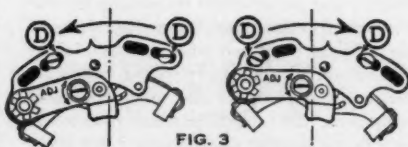
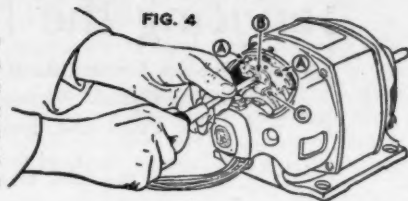

FIG. 3. DIRECTION OF ROTATION
FIG. 4. BRUSH LIFTING MECHANISM
**Removal from Motor:** Take out screws AA Fig. 4. (Motor must NOT be running.)
**Assembly to Motor:** Place mechanism into position as shown in Fig. 4 being sure that lifter arm encircles weights C Fig. 4.
Place screws AA Fig. 4 in the position. The pointer of the mechanism should be lined up with the rotation mark stamped on motor frame, for proper rotation and power. If motor frame is not marked, the mechanism should be placed so that edge of slot D Fig. 3 is barely showing in the direction of rotation. Screw-driver slot in adjusting stud B Fig. 4 should be in horizontal position.
**Adjustment:** Start motor. Holding screw driver in slot of eccentric adjusting stud as shown in Fig. 4 with motor running make sure that the lifter arm is completely up. Holding lifter arm up as shown, turn adjusting stud slowly to right until the lifter arm ticks against short circuiting device weights, then turn back slightly to the left until ticking disappears and proper adjustment is obtained. If lifter arm is already ticking against weights when completely up and before turning stud to right, turn same slowly to left until ticking disappears. (The best adjustment is when lifter arm is as close as possible to the short circuiting device weights without ticking.) Try starting and stopping motor several times to make sure adjustment is correct.